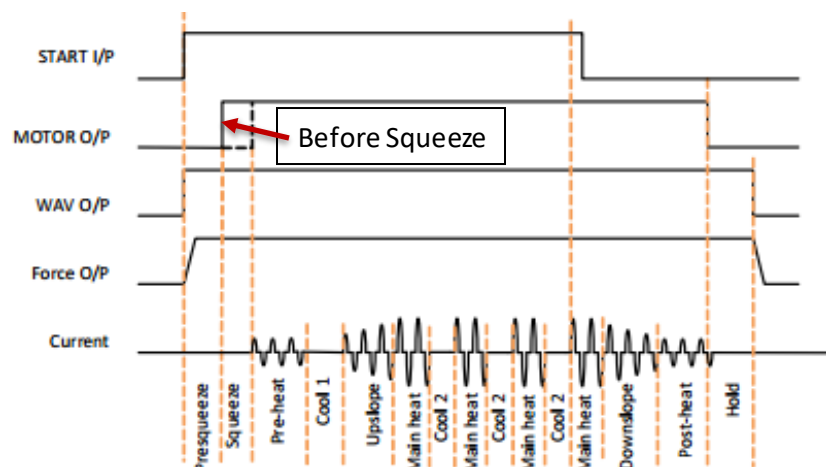

Figure 53: Seam Weld Timing Diagram – Second Stage Before Squeeze
The weld program (schedule) to be programmed will follow the Seam Weld timing diagram shown in Figure 53. This example is based on a machine with the configuration defined below:
The steps to program the Weld Program in **Figure 53** are as follows:
25) The weld program corresponding to the seam welding timing diagram in **Figure 53** has now been stored in the EN7000v2 weld control and it is ready for use.